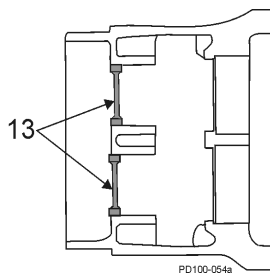

Figure 75 - Remove Rear Oil Seals
- Press out and discard both rear oil seals in the gear case (Figure 75, item 13).